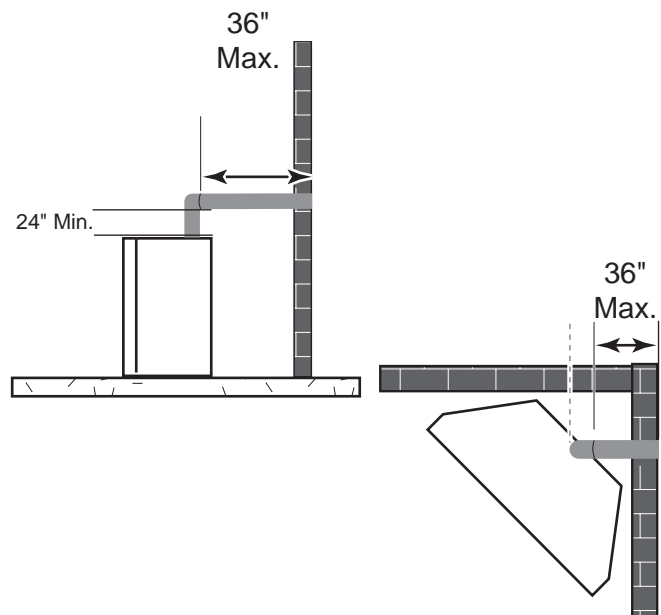

Figure 12 - Maximum Horizontal Run with No Rise
- A minimum of 24" is required before a 90° elbow. If a 90° elbow is fitted directly after 24" vertical section mounted to the top of the fireplace, the maximum horizontal vent run before the termination or a vertical rise is 36" (914 mm). See Figure 12.